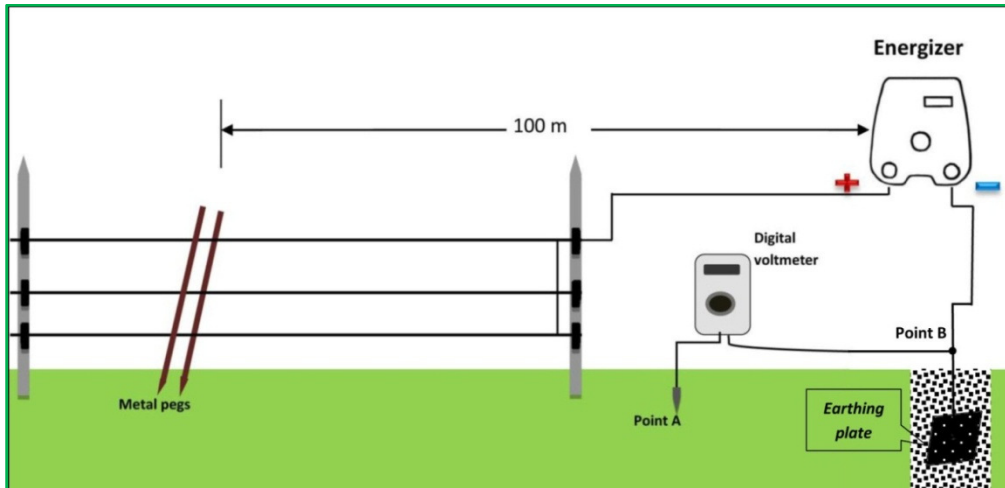

Figure 25. Testing ground with voltmeter
- Using digital voltmeter check the ground voltage as shown in the Figure 25.